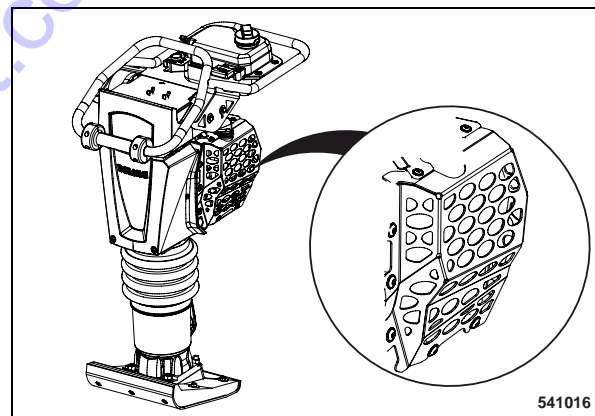

Fig. 56
- Remove the protection grid on the left hand side of the engine (Fig. 56).